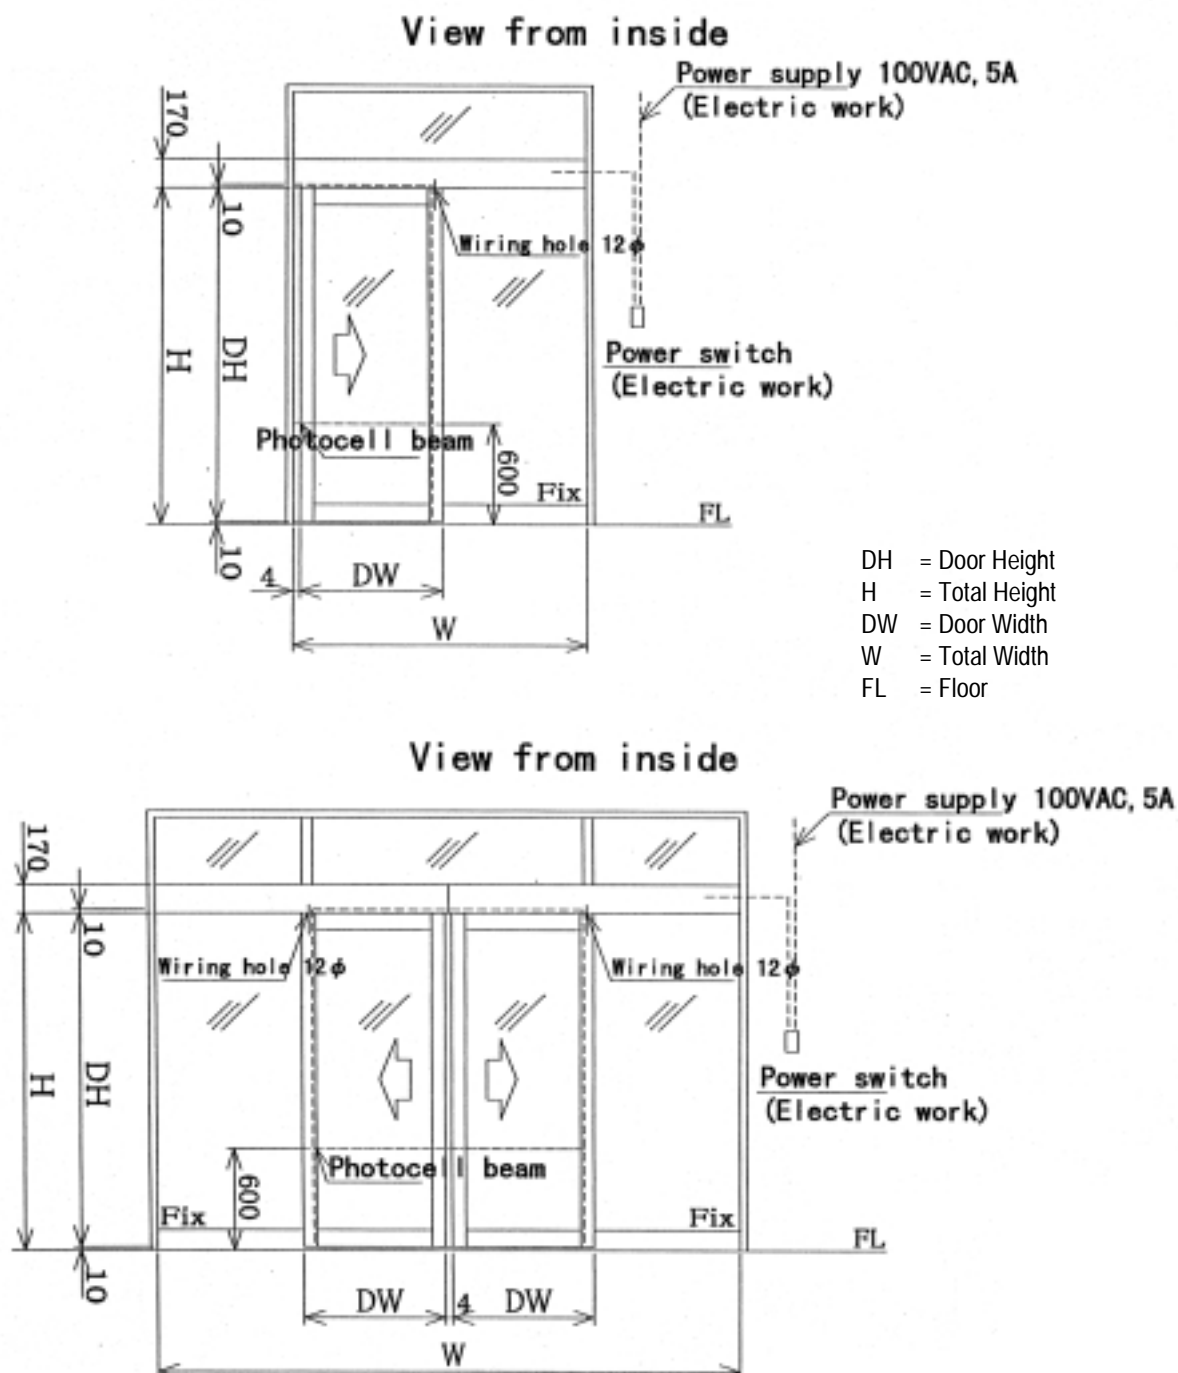

Fig.2
- 1) Measure 40-60 cm from the ground on the two opening sides and pre-drill for the photocell columns at max. 10 cm from the mobile section (fig.2)
- 3) Drill two Ø12 mm holes on the track in alignment with the support columns (fig.2) to enable electrical connections between photocells and the amplifier (remove all residue).